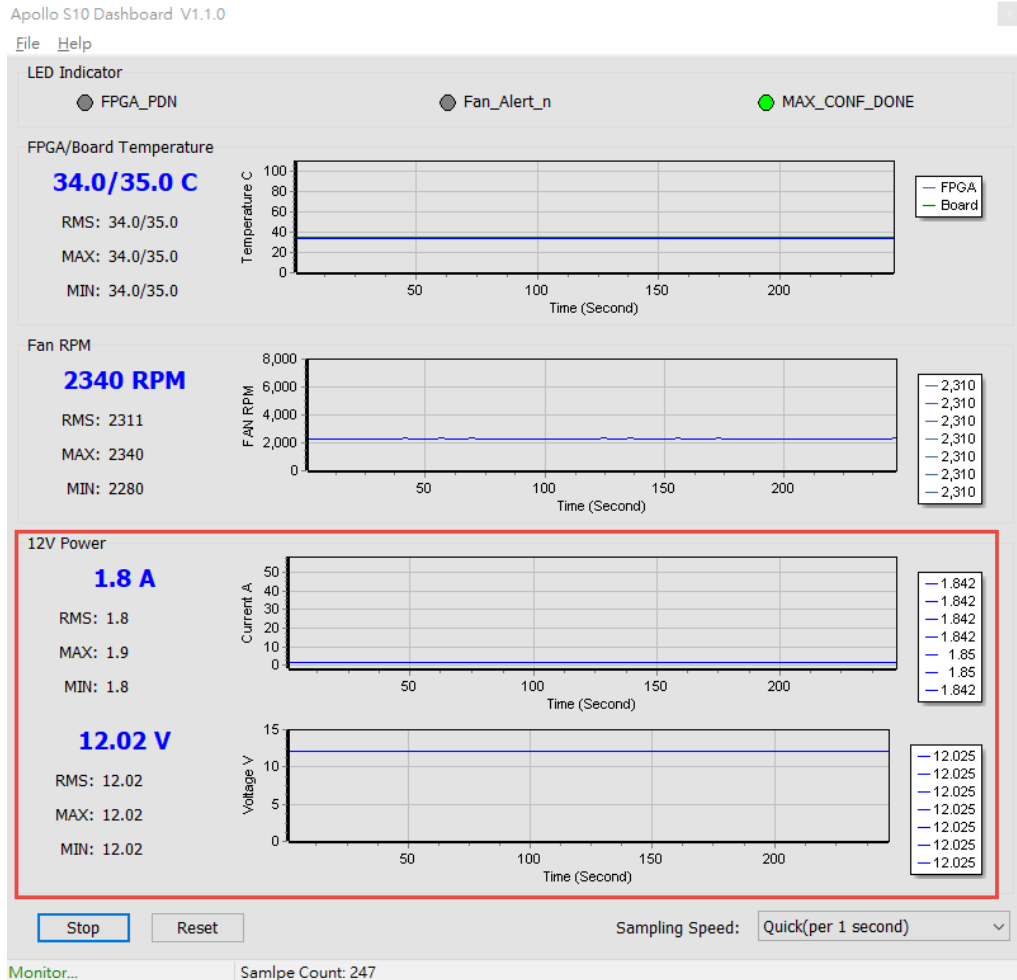

Figure 4-11 Power Monitor Section
- **12V Power monitor:** It displays the real-time 12V Power voltage and consumption current on the Apollo S10 board, as shown in **Figure 4-11**.